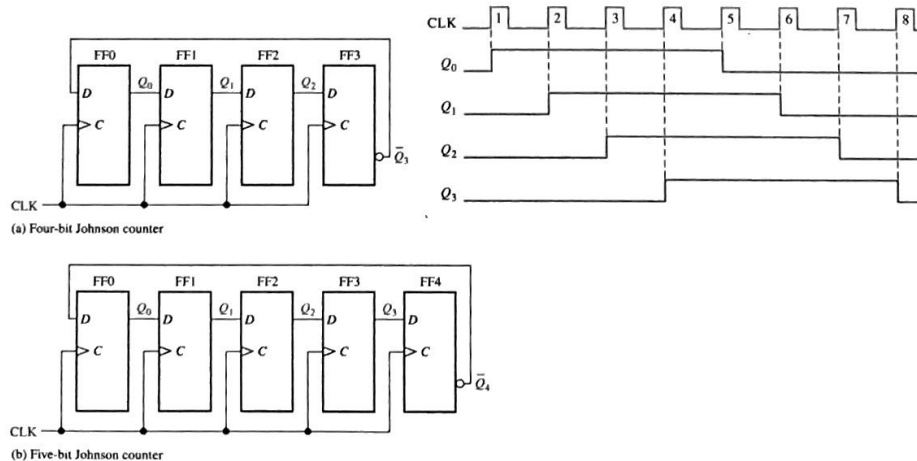

Figure 5: (Left) 4 and 5-bit Johnson counters. (Right) The timing diagram for the 4-bit case.
2. Consider Fig. 5, in which 4 and 5-bit Johnson counters are depicted. (a) Create a circuit based on Fig. 5 called a *combinatoric trigger*. Imagine four digital channels A, B, C, and D, as inputs. The output of the circuit should be True if *any two* of the four channels is True *within 100 ns of each other*. Develop any necessary logic symbols, and use the appropriate clock frequency. The Johnson counter(s) can have any number of bits.